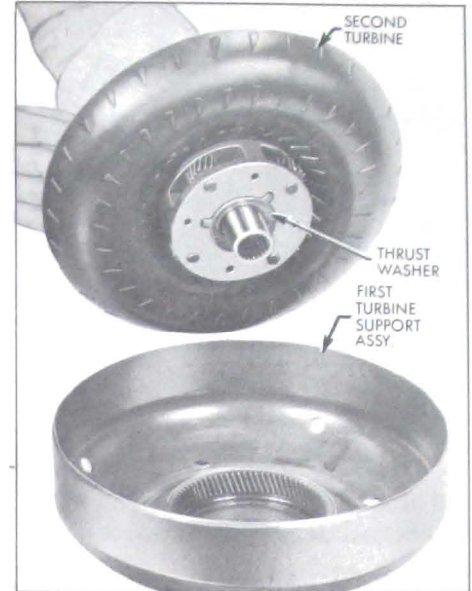

Figure 5-63—Installing Second Turbine in First Turbine Support
9. Place tanged thrust washer on forward face of second turbine carrier. Hold in place with chassis lube if necessary. See Figure 5-63.
10. Lower second turbine assembly into first turbine support and ring gear assembly. See Figure 5-63.